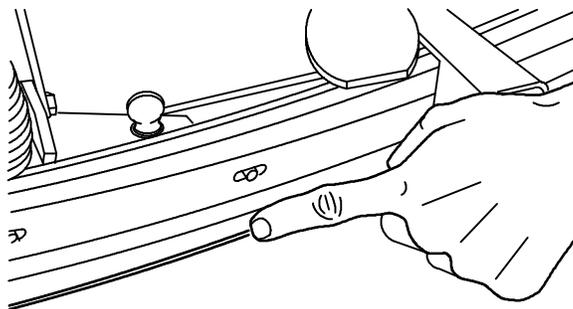

FIG. 6
4. Lower squeegee, push machine forward and check that the blade has even contact the full length of the squeegee (Figure 6). If blade is not even, leveling is required (See LEVELING SQUEEGEE).
2. Push machine forward to deflect squeegee blade (Figure 6).